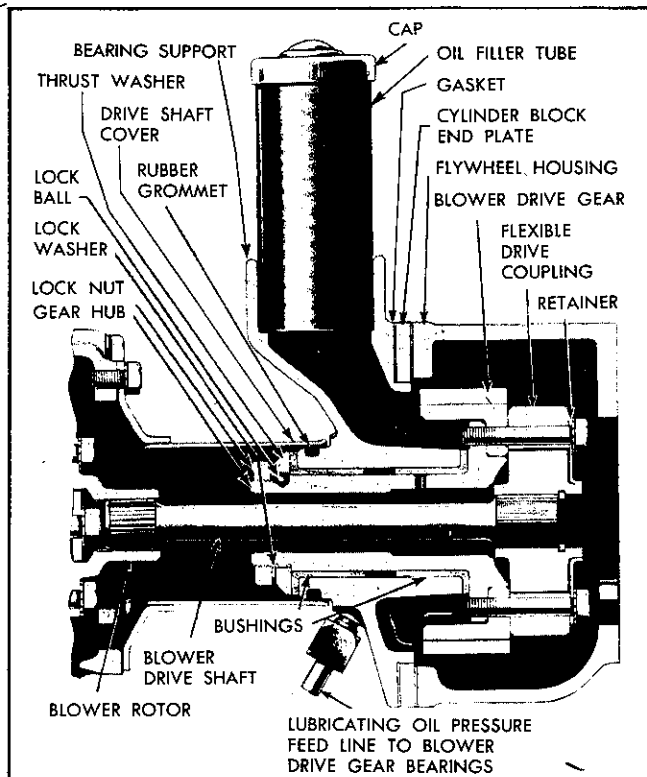

Fig. 2—Blower Drive Gear Assembly.
2. Slide blower assembly forward, exposing lock nut on inner end of blower drive gear referred to in Fig. 2.